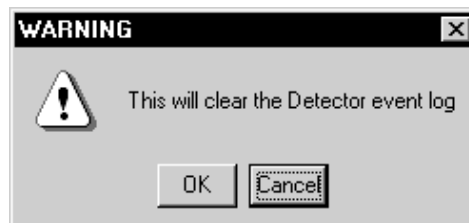

Figure 7-21. Warning Window, Event History
1. From the Display and Control window, select **Options>Event History>Clear Event History**. The Warning window opens, as shown in Figure 7-21.